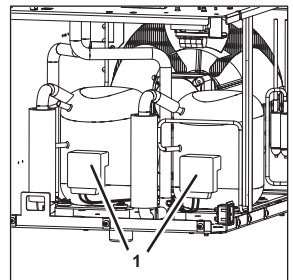

Figure 134
- Remove the cover (Figure 134/1) from the electrical assembly.
- Attach the cover (Figure 134/1) of the electrical assembly.